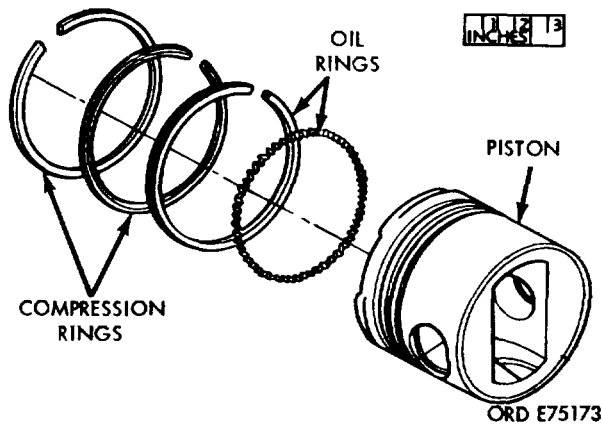

Figure 3-9. Piston and ring assembly.
- c. Using a suitable ring expander remove piston rings (fig. 3-9).